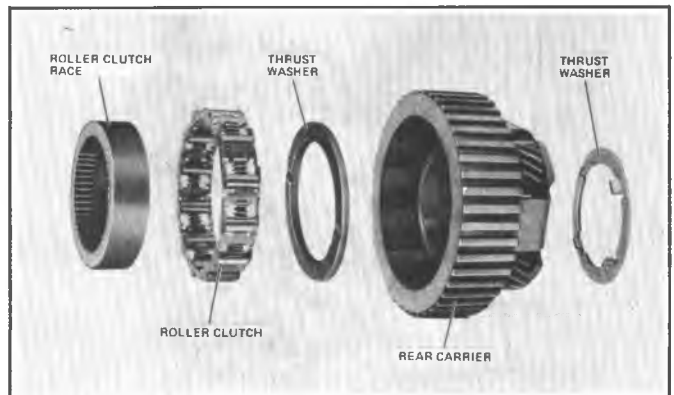

Figure 7A6-91 Roller Clutch and Rear Carrier - Exploded
2. Remove roller clutch assembly and inspect roller bearings, cage and springs for damage or wear (Figure 7A6-91).